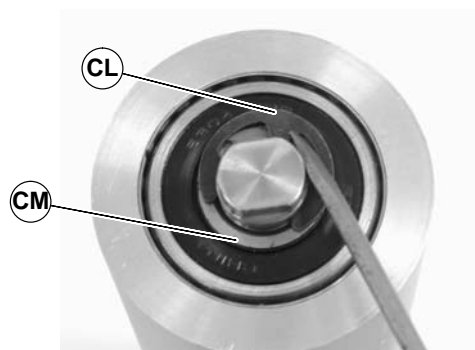

Figure 75
- Remove the pulley shaft assembly: remove the clip ring (CL of Figure 75) and washer (CM) from one side of the pulley assembly.